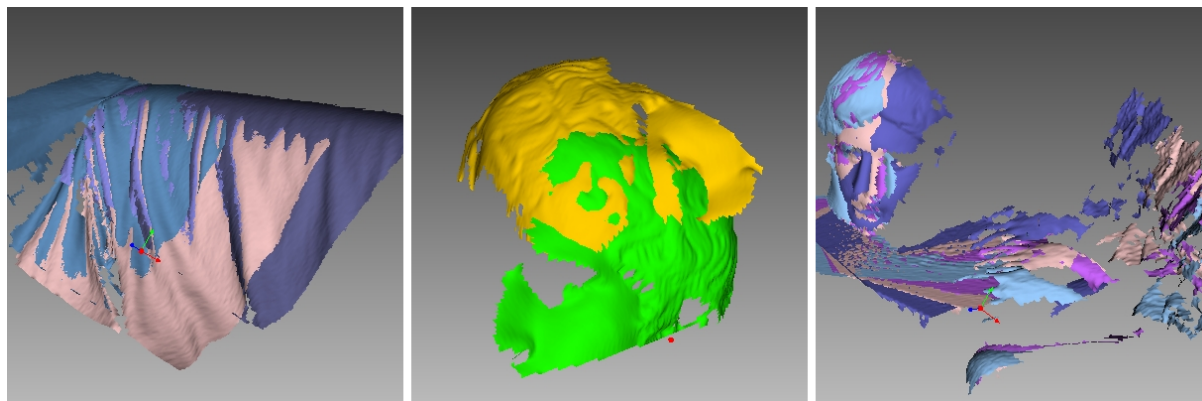

Figure 78: Possible scan errors.
- Misaligned frames (see Figure 78, left)—may occur because of small size, an insufficient number of geometrical features on the object or an insufficient number of polygons in a frame.
- Misaligned parts (see Figure 78, middle)—occurs when the real-time alignment algorithm incorrectly determines the position of the new frame relative to previous ones.
- Unwanted objects in the frame (see Figure 78, right).